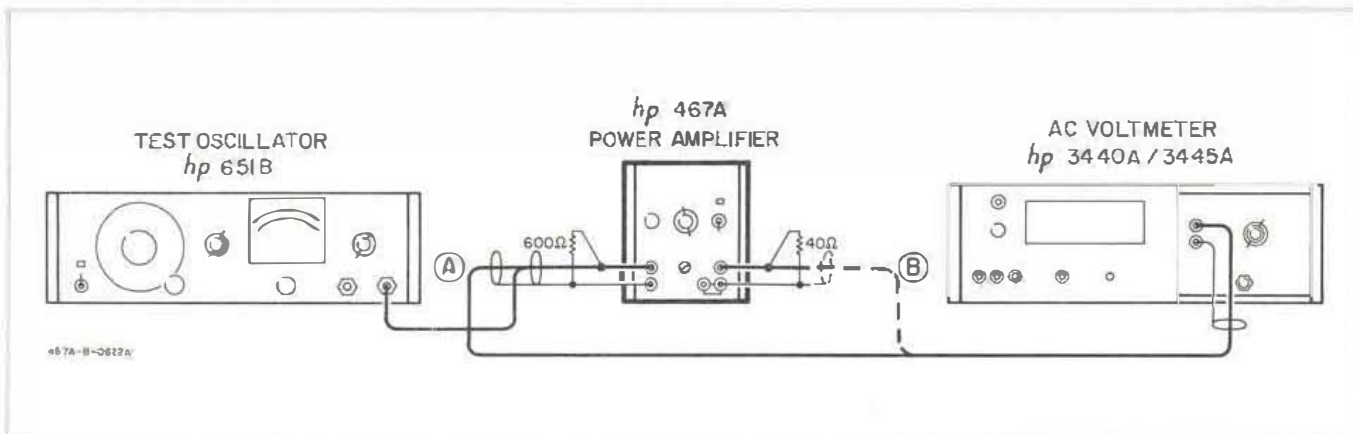

Figure 5-1. AC Accuracy and Gain Check
- Figure 5-1 shows the test setup recommended. A Test Oscillator (-hp- Model 651B), an AC Voltmeter (-hp- Model 331A and 3440A/3445A), 40 and 600 ohm loads are required. Use the 331A Voltmeter for the 1 MHz frequency. Use a 3440A/3445A with known accuracy at 400 Hz and 10 kHz.
- Connect the 3445A INPUT to the INPUT of the 467A (A in Figure 5-1). Advance the AMPLITUDE of the Oscillator until the ac voltmeter reads 1.000V.
- Using a 40 Ω load resistor, connect the 3445A INPUT to the OUTPUT of the 467A (B in Figure 5-1). Set 467A to AMPLIFIER X10. The ac voltmeter should read 10.00 volts $\pm 1.0\%$. If the reading is not within tolerance, see Paragraph 5-30 for adjustment.